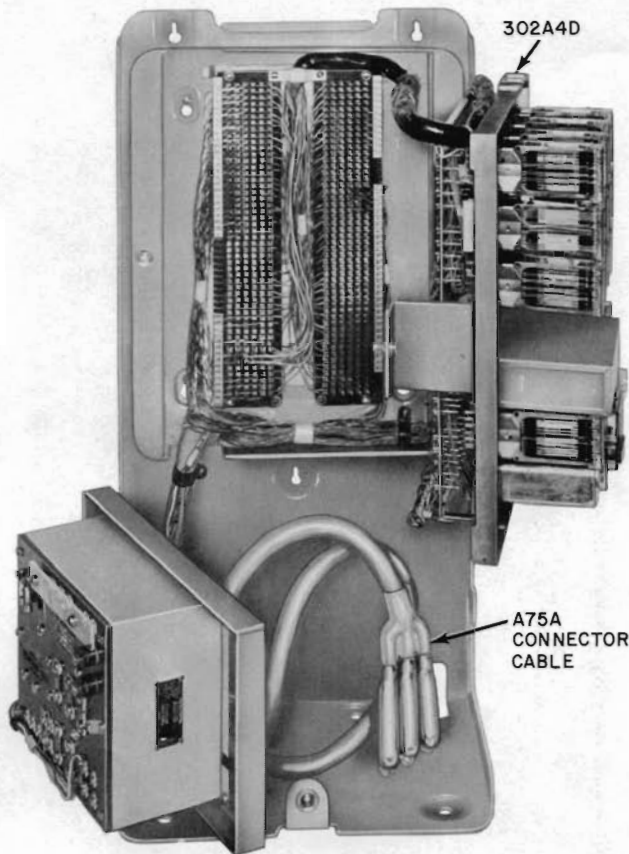

Fig. 4—302A4D KSU, Cover Removed
2.13 Fig. 4 is a 302A4D KSU in an open position to show the A75A cable.